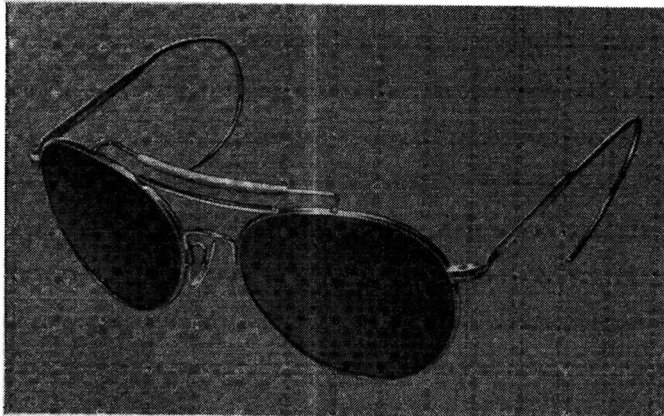

Fig. 4. Spectacles, Mk. II
7. These spectacles (*fig. 4*) are for the use of aircrew and are approved for limited introduction. They are available in two sizes: small (Stores Ref. 22C/1369) and large (Stores Ref. 22C/1370). Large curved lenses of a neutral tint are fitted, and the frame has a stiffener bar and a plastic-covered brow bar. The nose pads are adjustable. A case is provided with each pair of spectacles.